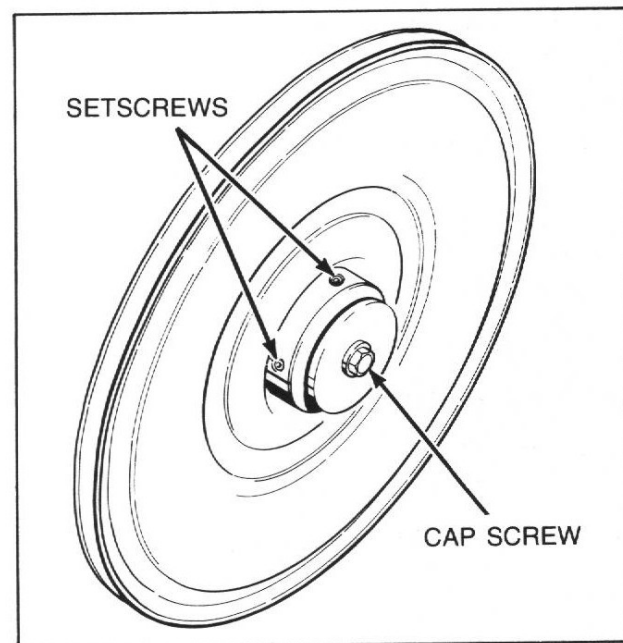

Figure 33
- c. Remove cap screw, lockwasher and flat washer from end of cylinder shaft, *Figure 33*.
- d. Loosen two setscrews, *Figure 33*, holding pulley and hub assembly to cylinder shaft and pull pulley off shaft.